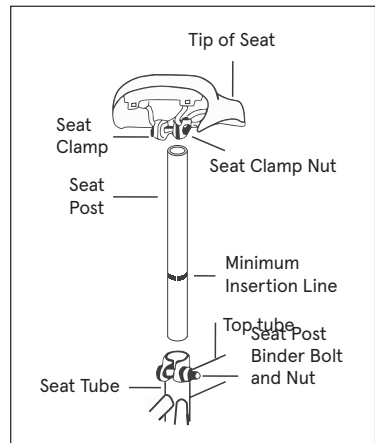

Fig. 8
1. Remove the plastic dropout protector from the fork. (Keep this in case there is a need for a return.) (Fig. 8)
Step 3: Seat Assembly (Refer to Fig. 8)